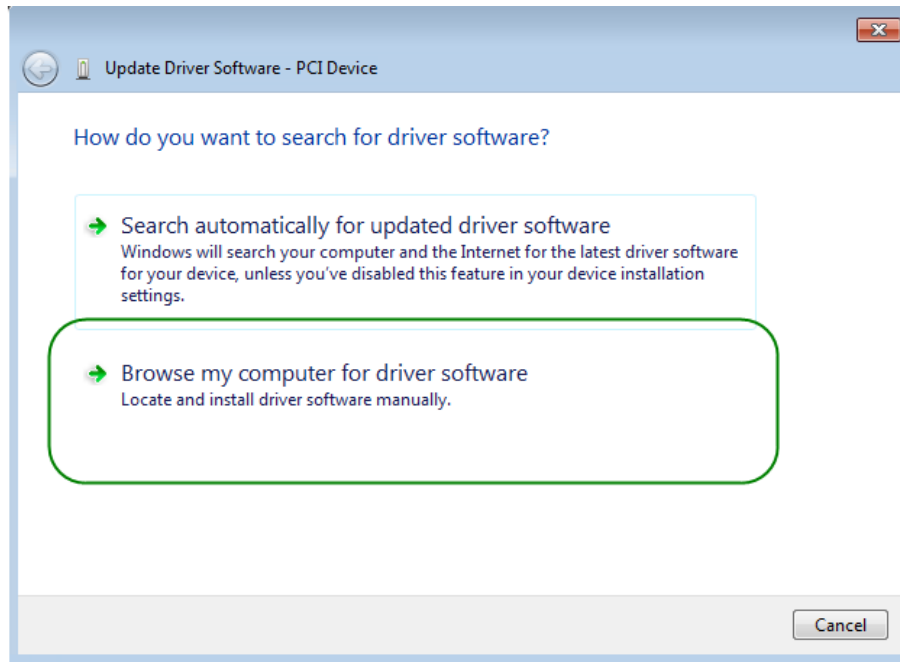

Figure 1-4 Dialog of Browse my computer for driver software
6. In the **How do you want to search for driver software** dialog, click **Browse my computer for driver software** item, as shown in **Figure 1-4**